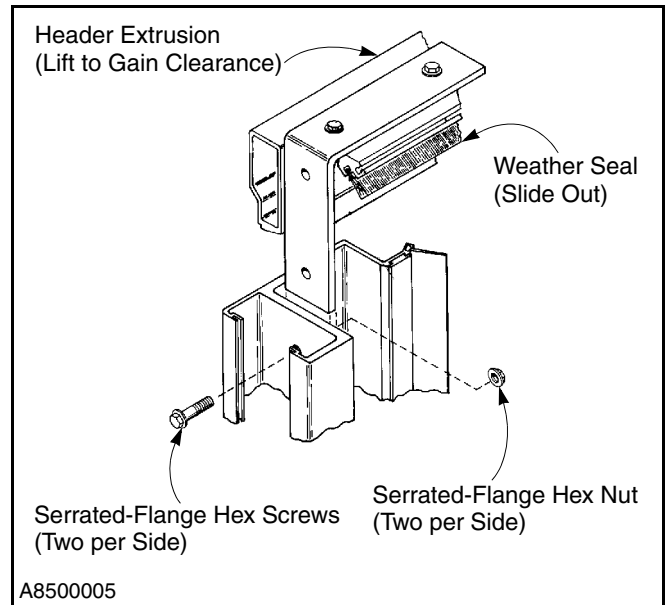

Figure 37
- From either side, remove two serrated-flange hex screws and nuts securing header extrusion and support bracket to side column. (See Figure 37.)